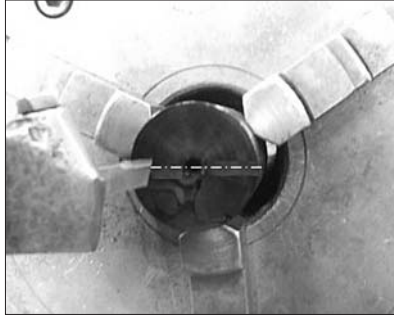

Figure 10
- g.** Explain what is wrong with the way the cutting tool has been set up in Figure 10.